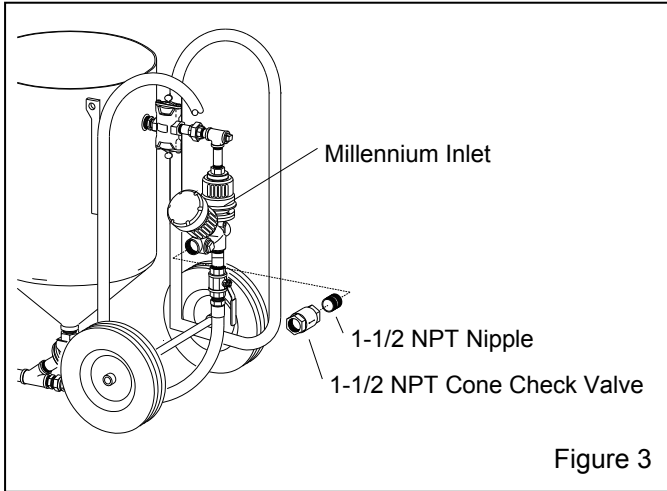

Figure 3
2.2.1 Where multiple blast machines are operating from a single air source, install a check valve at the air supply on each machine. The illustration in Figure 3 shows where to install a cone check valve on the blast machine.